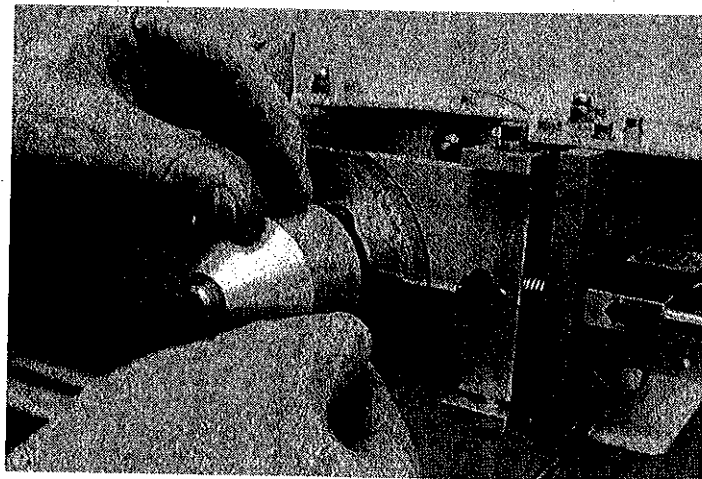

Figure 9 Fit the Protractor and Set to Zero Degrees.
8. Fit the protractor to the model shaft and set it to 0 degrees. Tighten the protractor clamp screws (see Figure 9). The protractor is supplied with the AF100 wind tunnel.